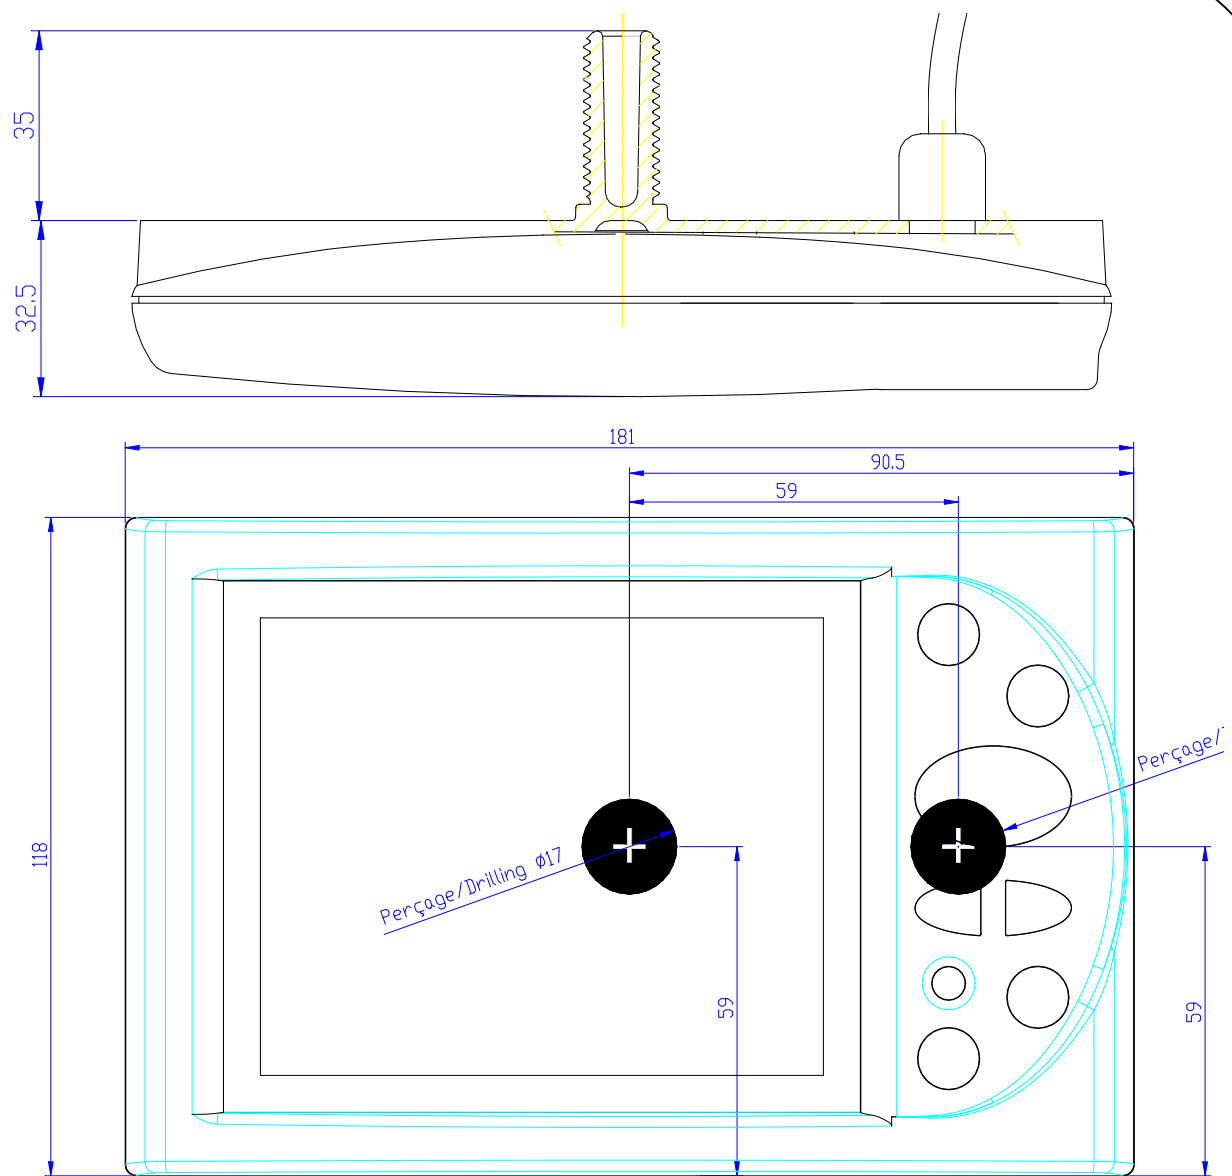

Figure 2
- Perform the Ø17 drillings according to the drawing of figure 2,